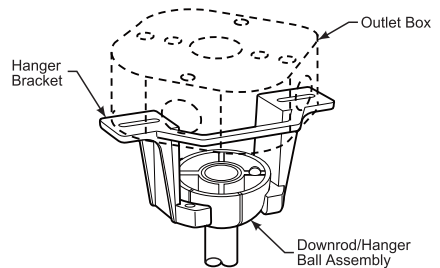

Figure 4
- ☐ 4. Loosen the two set screws and locking nuts in the downrod support of the motor assembly. Route the wires through the downrod. (Figure 4)
2. Carefully lift the fan and seat the downrod/hanger ball assembly onto the hanger bracket that was just attached to the outlet box. Be sure the groove in the ball is lined up with tab on the hanger bracket. (Figure 4) This fan is intended for standard and angled mounting options only. Closemount and flushmount options are not available. For angled ceilings, note the angle can be no more than 19°.
3. After connections have been made, put the white and green leads to one side and the black leads towards the other side, the connection should be turned upward and carefully push leads into the outlet box. The wires should be spread apart with the grounded conductor and the equipment-grounding conductor on one side of the outlet box and the ungrounded conductor on the other side. (Figure 4)